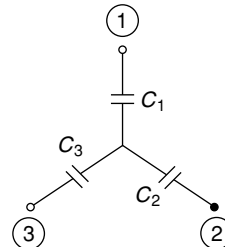

Fig. 1.50a Equivalent star connection of delta-connected capacitors in Ex. 1.49
Figure 1.50a represent the equivalent star capacitances provided net capacitances between terminals ① – ②, ② – ③, ③ – ① remain same for both the configurations. Capacitances